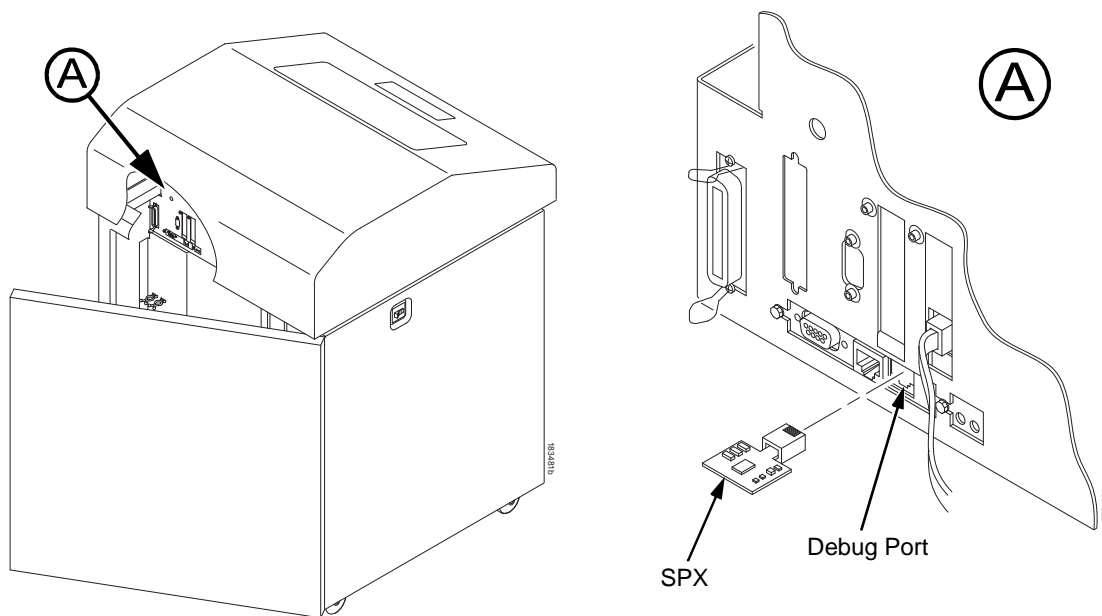

Figure 25. Inserting The SPX into the Debug Port
2. On cabinet models, open the rear door. On pedestal models, refer to Figure 25 to locate the debug port at the rear of the printer.